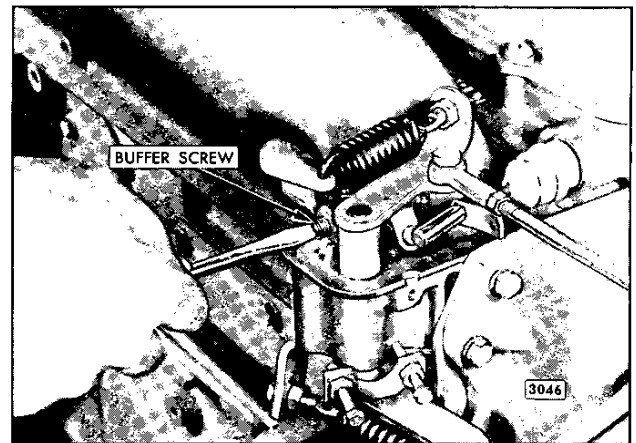

Fig. 7 – Adjusting Buffer Screw
1. With the engine running at idle speed, turn the buffer screw in (Fig. 7) so that it contacts the stop lever as lightly as possible and still eliminates engine roll. Do not raise the engine idle speed more than 20 rpm with the buffer screw.